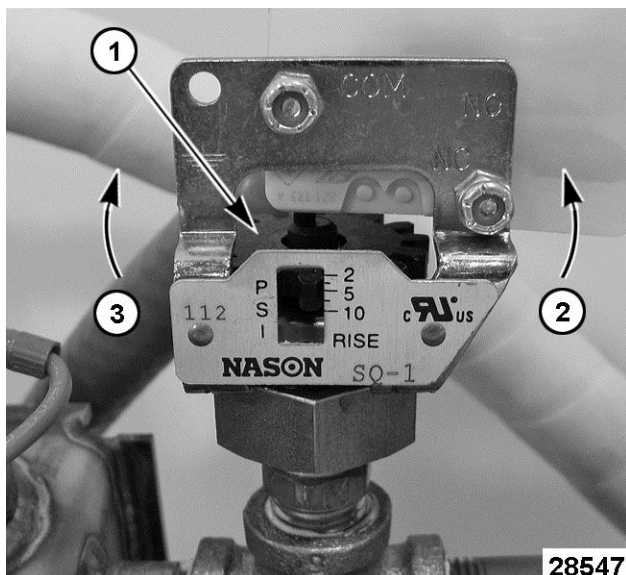

Fig. 81
2. Referring to cut-out pressure recorded in Check procedure, turn adjustment wheel [1] Fig. 81 to bring cut-out pressure into tolerance.
- 1) Turn adjustment wheel CCW [2] Fig. 81 to decrease cut-out pressure.
- 2) Turn adjustment wheel CW [3] Fig. 81 to increase cut-out pressure.